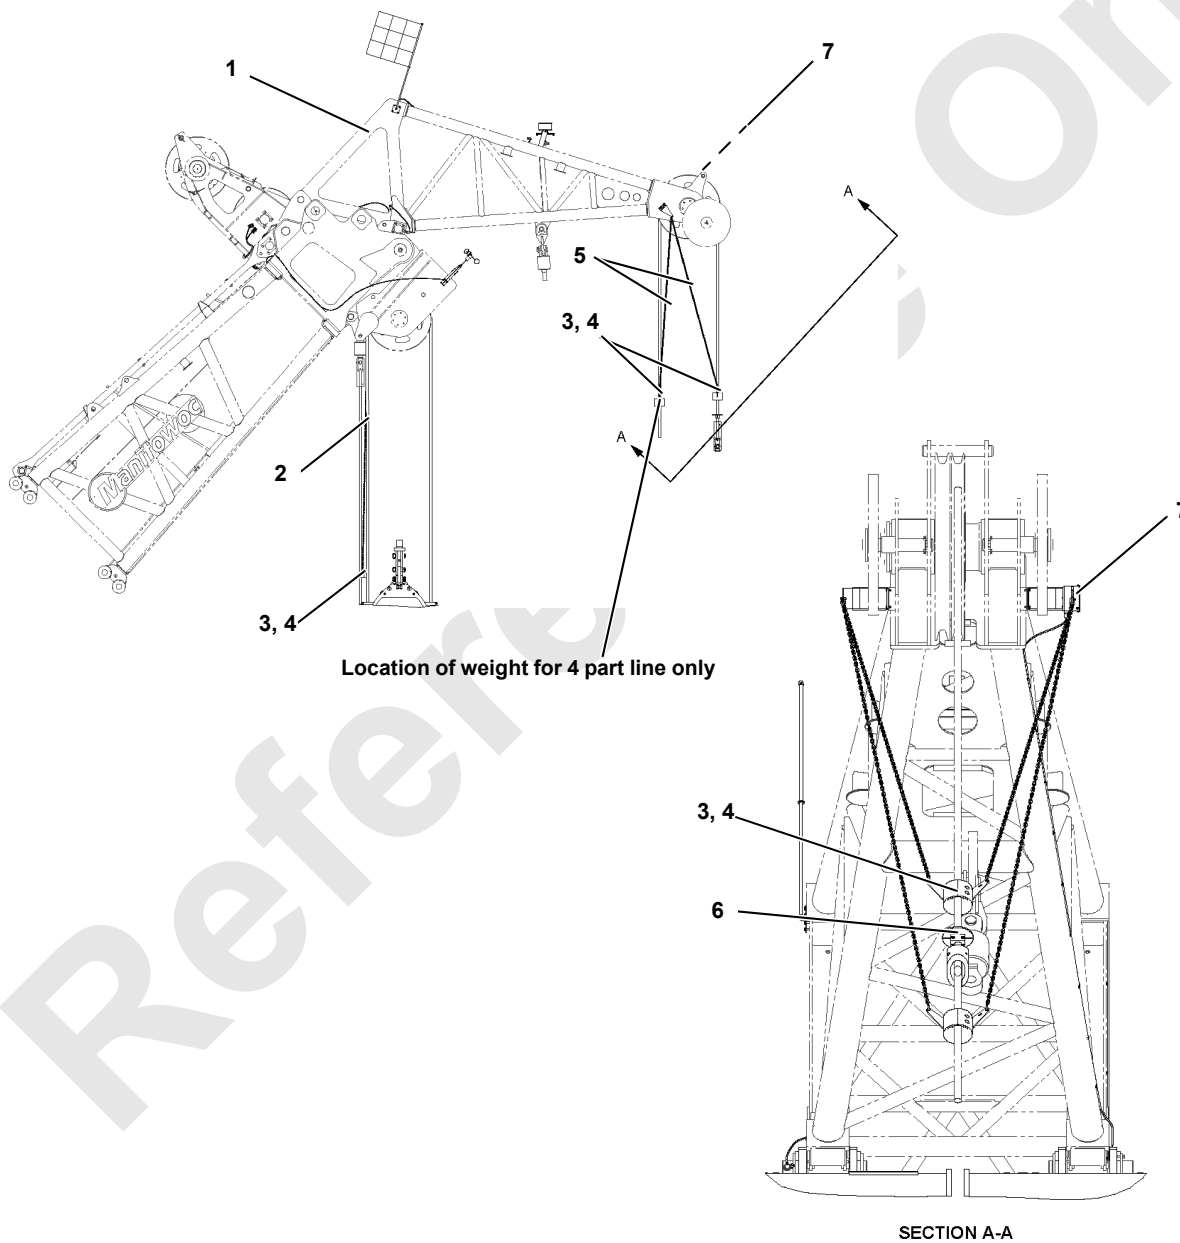

FIGURE 5-26
- See Figure 5-26 for #90 with upper boom point.
See Figure 5-25 and Figure 5-26 for the following procedure.